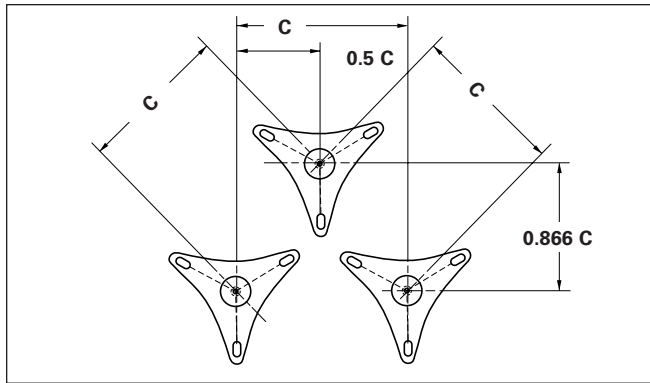

Figure 6a. Three-phase triangular mounting
- \*\* Leakage distances shown are for standard housing. Refer to Figures 6a and 6b for illustration of dimensions B and C.